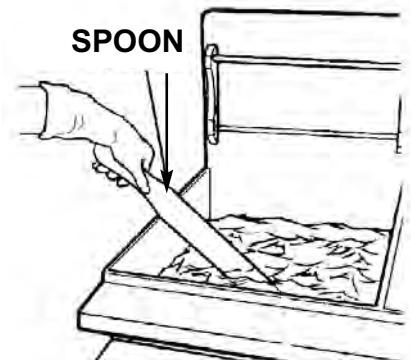

FIGURE 4.
3. Use spoon provided to stir oil. Bubbling will occur until all water is removed. Failure to do so will clog the filter paper. Refer to Figure 4.
3. Water may have clogged the paper (See Fig. 4)